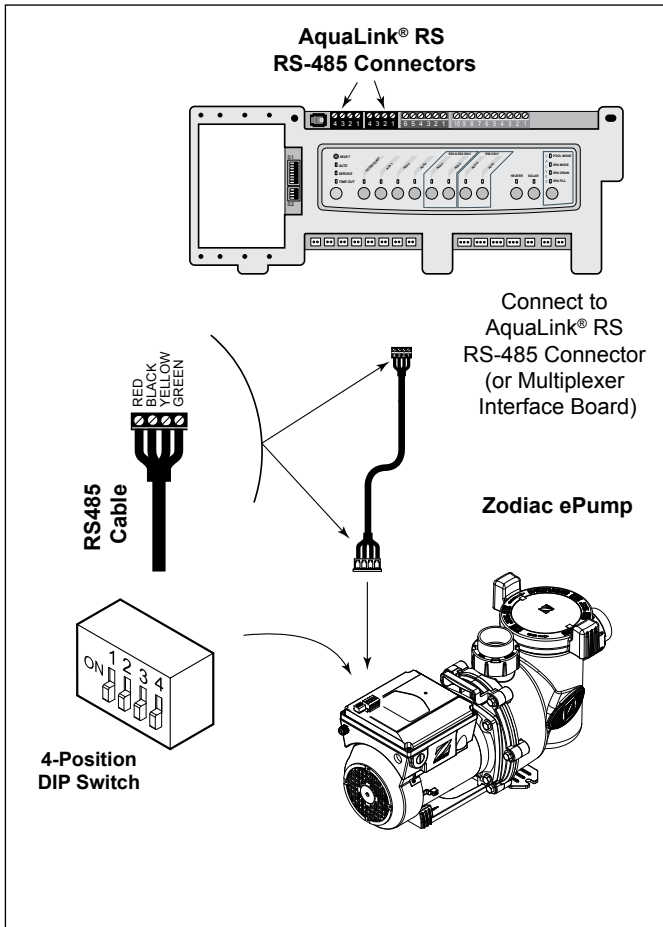

Figure 3. Wiring AquaLink® RS Controller or AquaLink® PDA to ePump
2. Slide dip switches 1 and 2 down, so they are in the OFF position. See Figure 3.